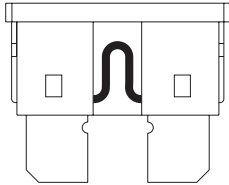

FIGURE 20. WORKING FUSE
- Examine the fuse to be sure it is blown. See figures 20 and 21.